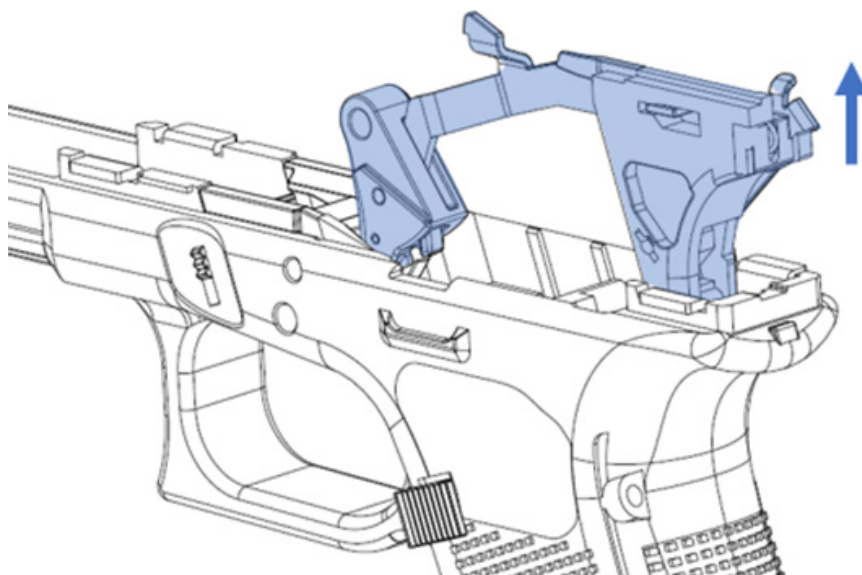

Figure 45: Trigger Group removal direction.
e) Remove the Glock Trigger Group from the frame (see Figure 45). If removing the Trigger Group gets complicated, lift the Locking Block slightly.